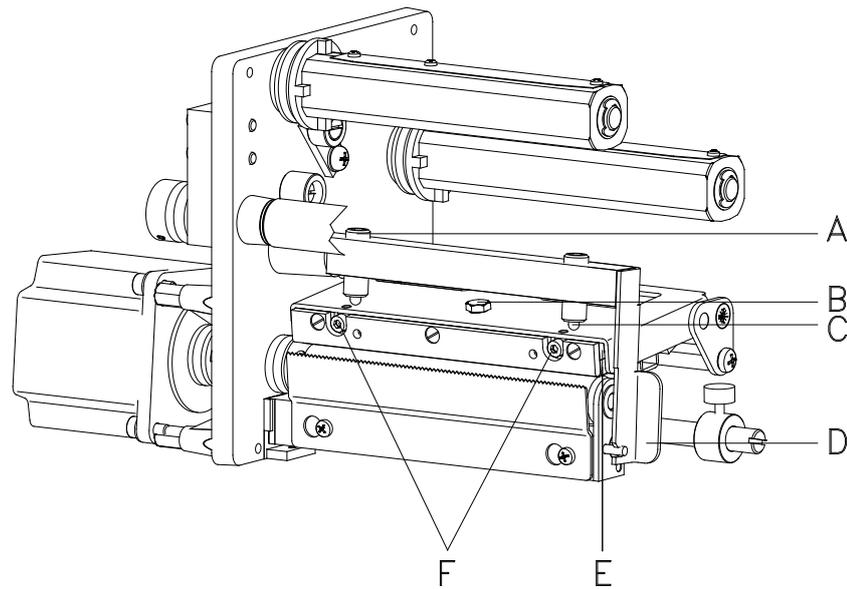

Figure 20
1. Loosen the fixing screw (B, Figure 20) approx. $\frac{1}{4}$ rotations.
2. Adjust the parallelism with the adjusting screws (F, Figure 20).
4. Tighten again the fixing screws (B, Figure 20).
1. Turn the pressure pieces (A + C, Figure 20) to change the pressure of printhead.
3. Tighten again the pressure lever (D, Figure 20) clockwise to lock the printhead.